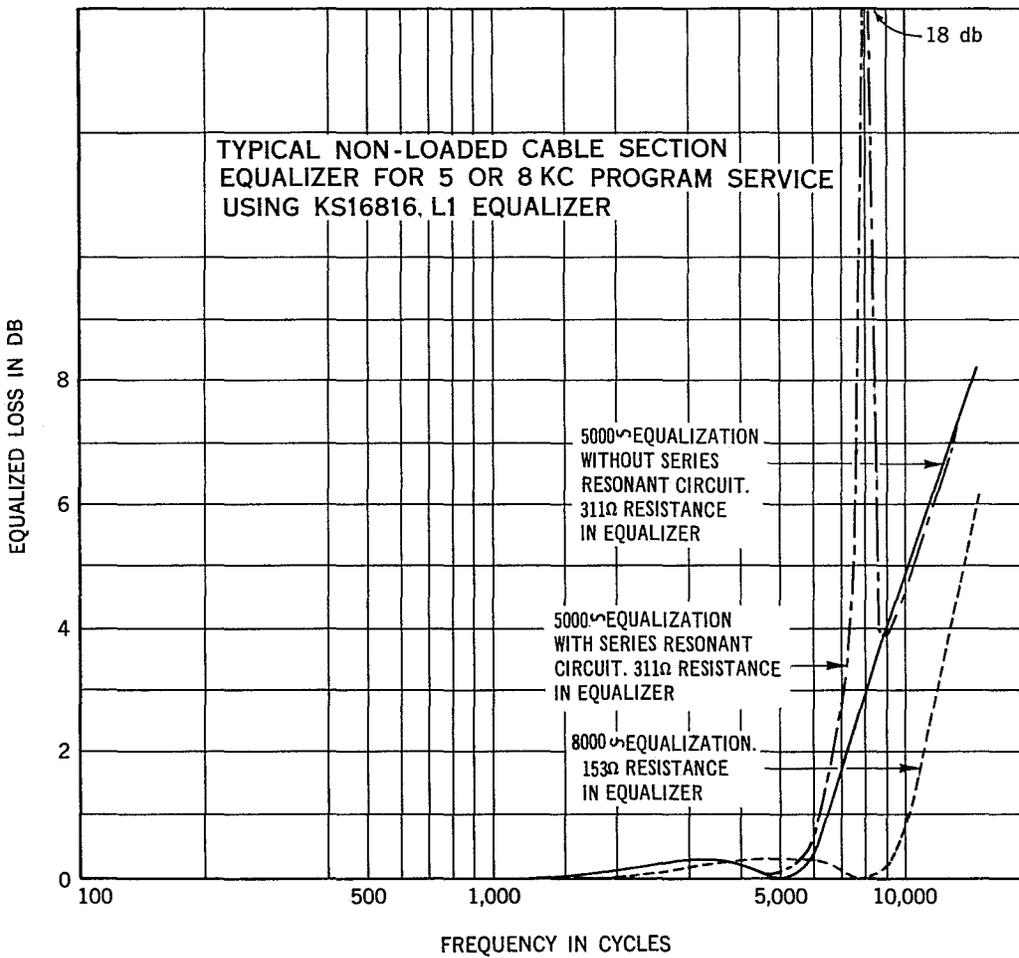
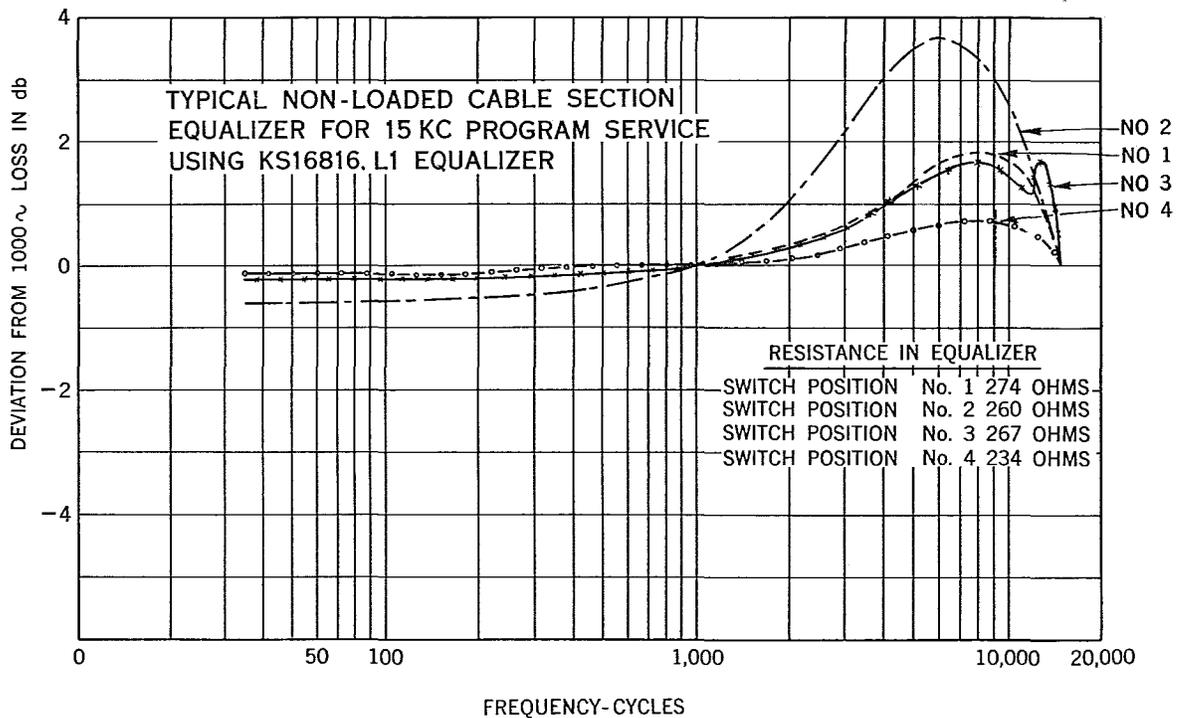

Fig. 6 -- Typical Curves for Equalized 5 and 8 KC Cable Section
Fig. 7 — Typical Curves for Equalized 15 KC Cable Section
4.01 Shown in Figs. 6 and 7 are some typical curves for equalized facilities using the KS-16816,L1 Equalizer. The section measured was made up of 10,266 ft., 26 gauge cable. The data for each curve were obtained on a looped basis using a 21A Transmission Measuring Set. The time required to obtain data for each curve was about five minutes, which included setup time for the equalizer. Fig. 7 shows the effect of series resistance on the over-all equalization for a 15 KC bandwidth.